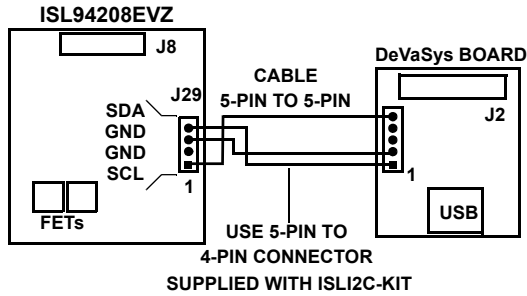

FIGURE 5. I²C CONNECTION TO ISL94208 PCB
- Connect the I²C cable from the DeVasSys board to the ISL94208EVZ board as shown in Figure 5. Use the 5- to 4-pin cable provided in the ISLI2C-KIT.